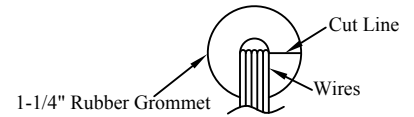

Figure 4
- A. Place 1-1/2" split plastic bushings around wires (Figure 4)